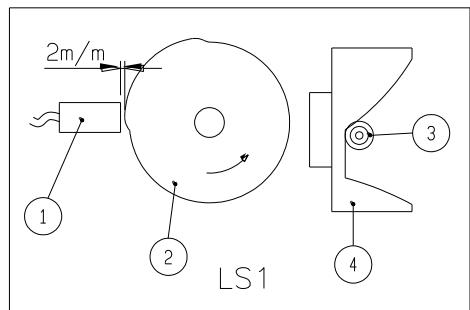

Fig.5.5
**LS1:** It (①) functions as a start point of heating-strap period (the welding cycle). When LS1 activates, main shaft stops running. Front clamp bar stops at the highest point to stuck the PP strap in the lower position of upper slide. The guide strap pool moves backward and the left strap way opened. Meanwhile, the strap starts reverses. The arm shaft (③) stops at the starting point of ④. That is, we use the limit switch ② to control the activation of LS1(See Fig.5.5).